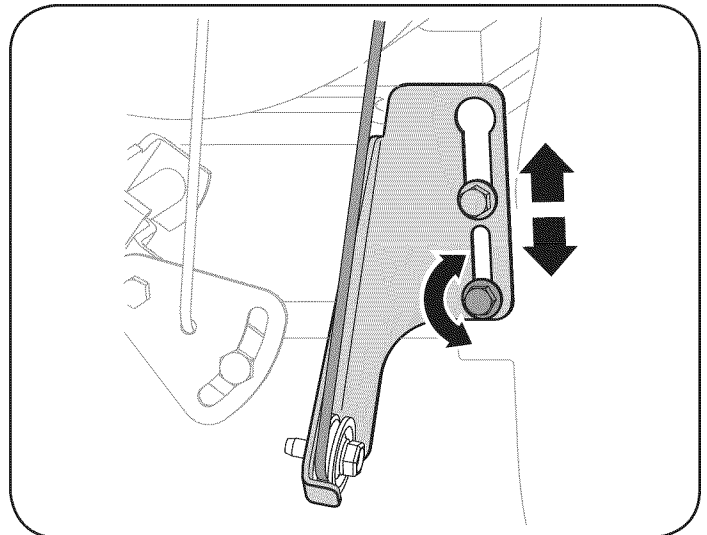

Figure 21
- b. Loosen the lower hex bolt on the drive cable bracket. See Figure 21.